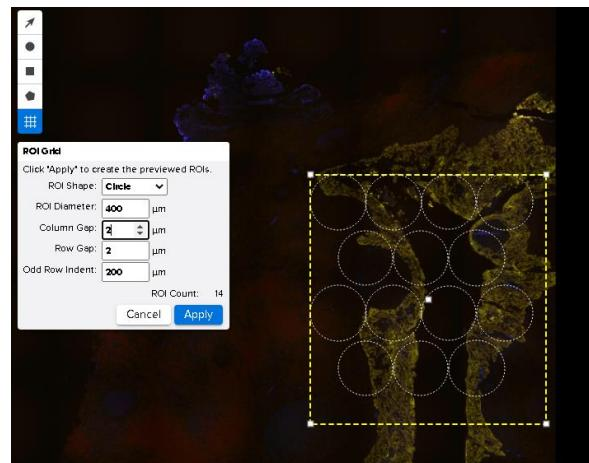

Figure 27: Grid ROIs tool
1. Select the Grid ROIs tool in the Scan Workspace (see Figure 27).